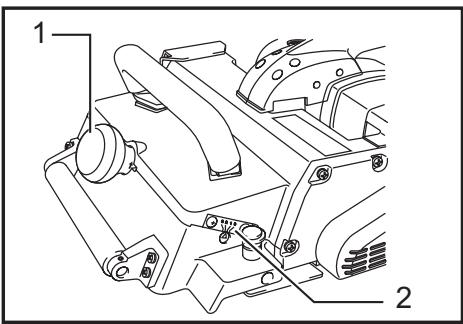

Fig.1
► Fig.1: 1. Knob 2. Scale plate